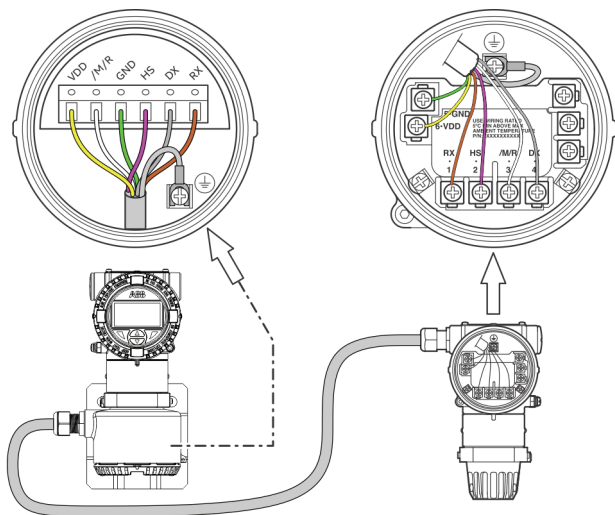

Figure 50: Electrical connection
6. Connect the wires to the corresponding terminals (see **Figure 50**).